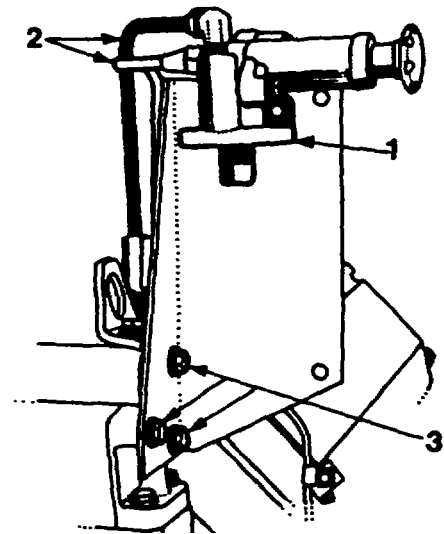

Figure 149. Removing Primer Pump and Filter Mounting Bracket Assembly
5. Remove fuel filters and fuel pipes from primer pump assembly. Remove three bolts from primer pump mounting bracket and remove bracket with pump from engine. Figure 149.